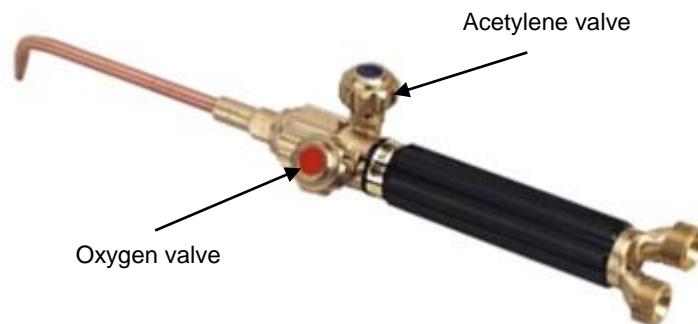

FIG 3.
- Close all the valves on the blowpipe. (Fig 3)